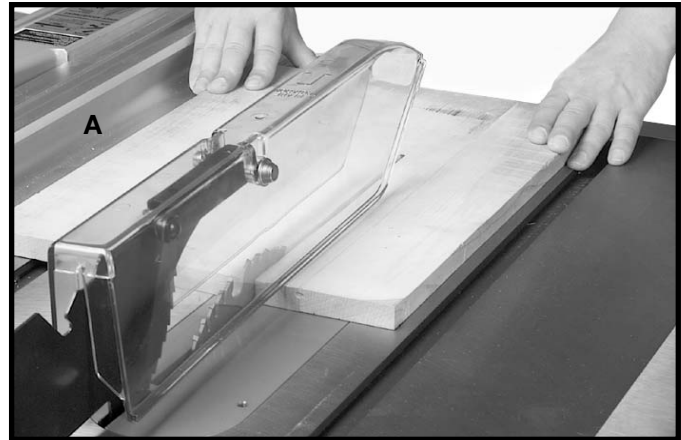

Fig. 97
Ripping is the operation of making a lengthwise cut through a board, as shown in Fig. 97, and the rip fence (A) is used to position and guide the work. One edge of the work rides against the rip fence while the flat side of the board rests on the table. Since the work is pushed along the fence, it must have a straight edge and make solid contact with the table. The saw blade guard must be used. On Delta saws, the guard has anti-kickback fingers to prevent kickback and a splitter to prevent the saw from closing and binding the blade.
Never stand in the line of the saw cut when ripping. Hold the work with both hands and push it along the fence and into the saw blade as shown in Fig. 97. The work can then be fed through the saw blade with one or two hands. After the work is beyond the saw blade and anti-kickback fingers, the hand is removed from the work. When this is done the work will either stay on the table, tilt up slightly and be caught by the end of the rear guard or slide off the table to the floor. Alternately, the feed can continue to the end of the table, after which the work is lifted and brought along the outside edge of the fence. The cut-off stock remains on the table and is not touched with the hands until the saw blade is stopped, unless it is a large piece allowing safe removal. When ripping boards longer than three feet, it is recommended that a work support be used at the rear of the saw to keep the workpiece from falling off the saw table.